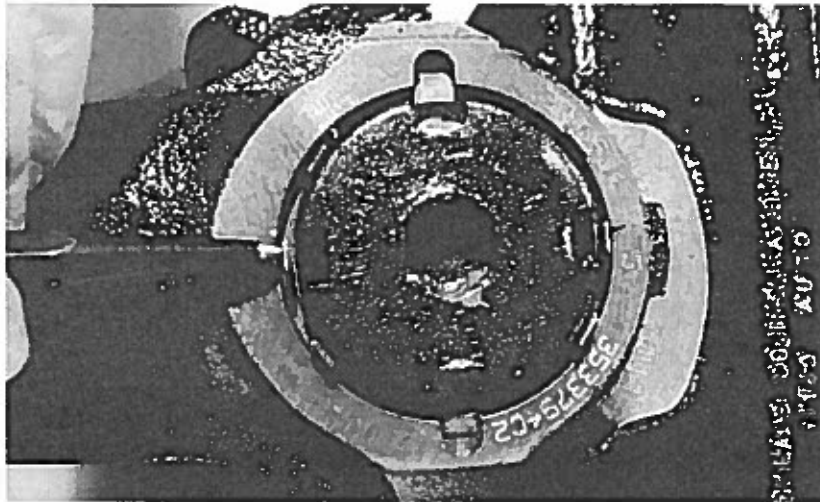

Figure 9
12. Use a tapered punch and hammer to lock the restraining tabs into the retainer (Figure 9).